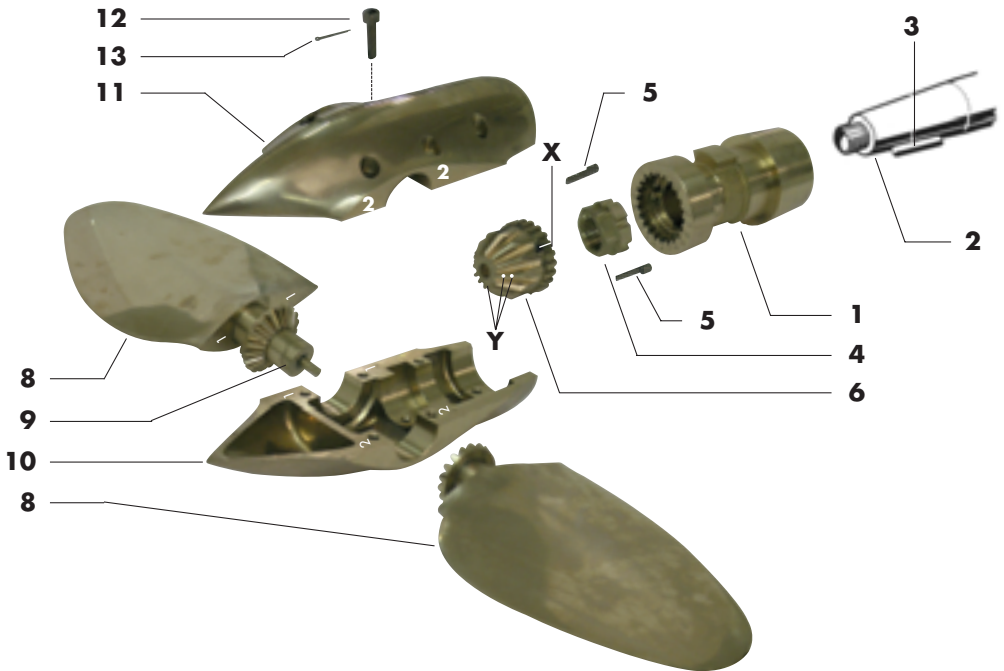

Fig. 2
- 3) **ASSEMBLY:** Make sure if you receive more than one propeller that you do not interchange parts. Each propeller is individually balanced and if interchanged it will be put out of balance. Please use figure 2 in the instruction book for part number references.